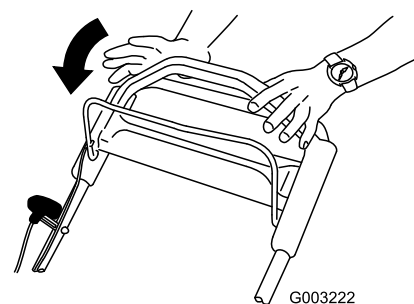

Figure 20
1. Release the blade control bar (Figure 20).